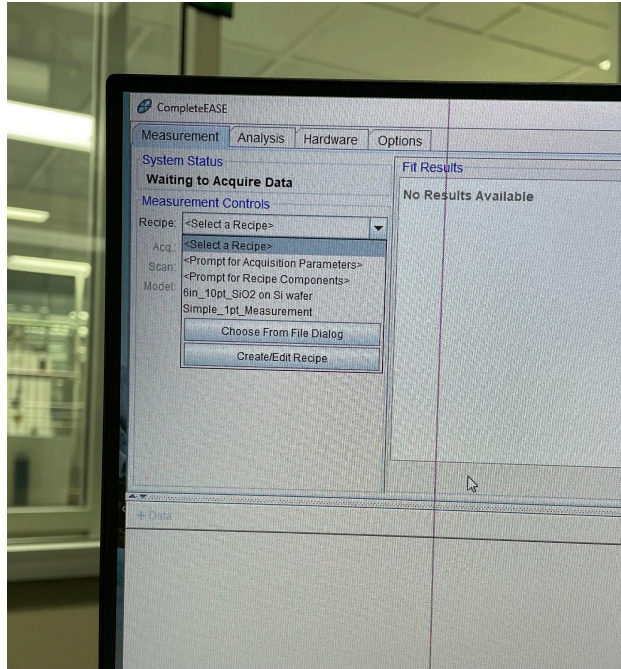

Figure 4: Measurement Tab and Selecting a Recipe
8.1.7. Once the software opens, you will see four tabs at the top left of the screen. Click on the “Measure” tab. **Figure 4.**
8.1.8. Select a Recipe from the drop down menu. **Figure 4.**